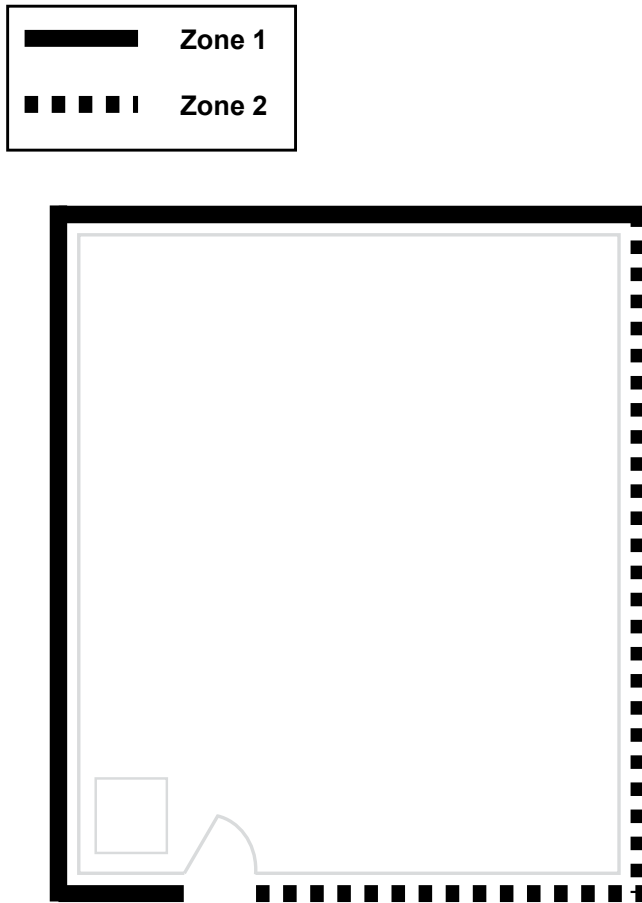

Figure 4-17: Buried application site drawing
4. Determine the location and length of sensor cable required for each zone. For this example, an RK-348 with two rack-mounted FD-348R APU modules will be set up in the office. We can divide the site roughly in half as shown in Figure 4-17: